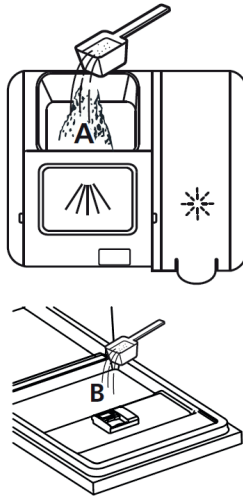

Fig.7
2. Add detergent to the dispenser main chamber (A) just before the washing cycle (Fig. 7). For better cleaning results, especially if you have very dirty dishes, pour a small amount of detergent directly onto the inner door recess (B). The detergent thus added is already activated during the pre-wash phase.
- If they do not fit in the basket, you can put them on the stand in the upper rack. (Fig. 7).